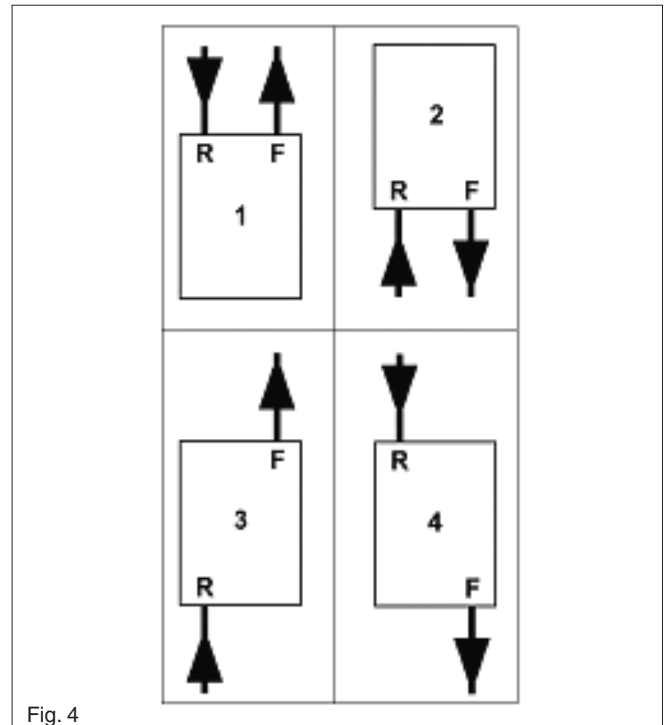

Fig. 4
The terminal should be located where the dispersal of combustion products is not impeded and with due regard for the damage and discoloration that may occur to building products located nearby. The terminal must not be located in a place where it is likely to cause a nuisance (see fig. 4).
3.11 APPLIANCE PIPEWORK CONFIGURATION (fig.4)